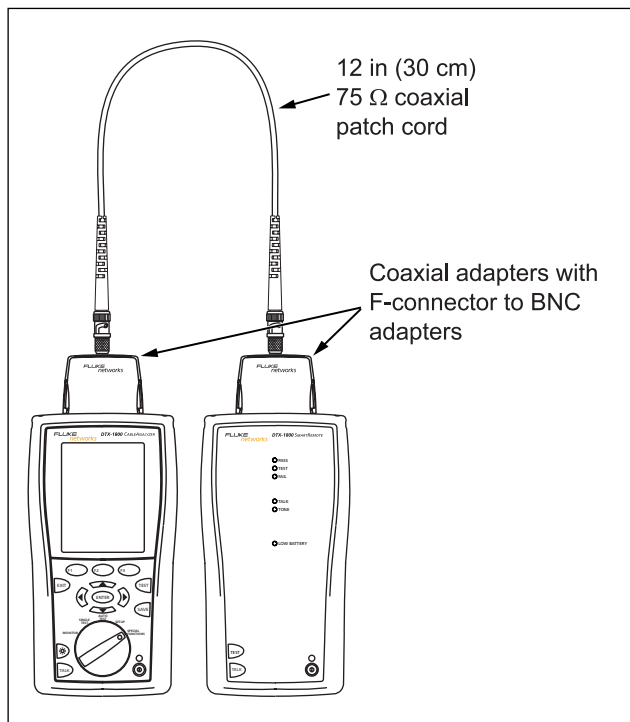

Figure 5-1. Coaxial Reference Connections
- 1 Attach coaxial adapters to the main and remote testers, screw in the F-connector to BNC adapters; then make the connections shown in Figure 5-1.
- 1 Connect the main and remote testers as shown for setting the reference in Figure 5-1.